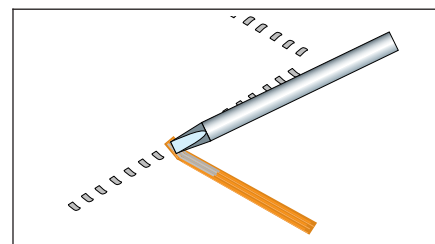

Figure 3 Solder Flows on Braid
7. When the observable solder flow due to solder wicking action has ceased, remove both the soldering iron and solder braid from the solder being removed and allow the area to cool to room temperature. (See Figures 3 & 4.)